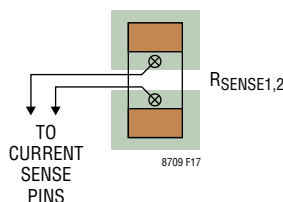

Figure 17. Suggested Routing and Connections of CSP/CSN and ISP/ISN Lines
- Route the CSP/CSN and ISP/ISN lines differentially (close together) from the chip to the current sense resistors as shown in Figure 17.
- Place the vias that connect to CSP/CSN and ISP/ISN lines directly at the inner current sense pads of the current sense resistors as shown in Figure 17.